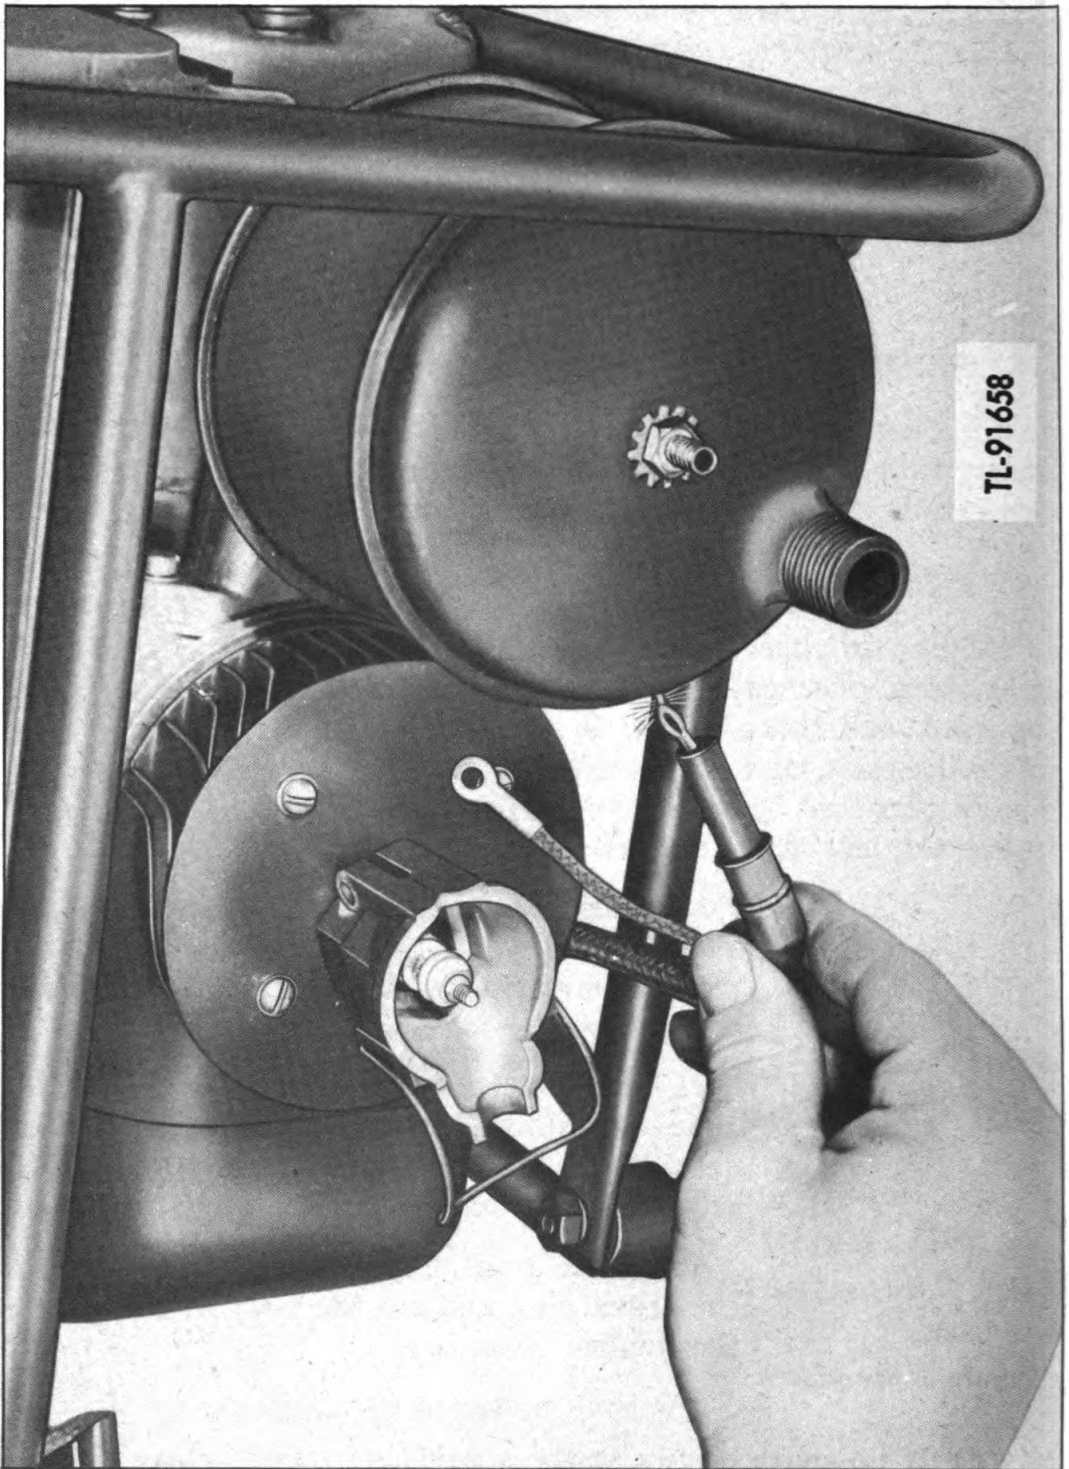

Figure 10. Test for spark output
(3) If the spark plug is removed and the points are found to be wet, it is an indication that the engine is being operated with too rich a fuel mixture, or the ratio of gasoline to oil is not correct.
b. Magneto. (1) If there is an indication that the magneto is causing trouble, test the magneto before attempting to repair it. If the engine refuses to start after it is determined that the spark plug is all right, check the magneto by removing the high-tension wire from the spark plug and hold the end of the wire about $\frac{3}{16}$ inch away from a point on the engine (fig. 10). When the engine is cranked in the usual manner, a properly performing magneto will have a spark output strong enough to jump the prescribed gap.
(2) If the spark produced will not meet the above test, it is very likely the breaker points require adjustment and should be gapped to 0.020-inch opening. The only adjustable part of the magneto is the breaker plate, which provides adjustment for the breaker points.
(3) To adjust the breaker points, proceed as follows: